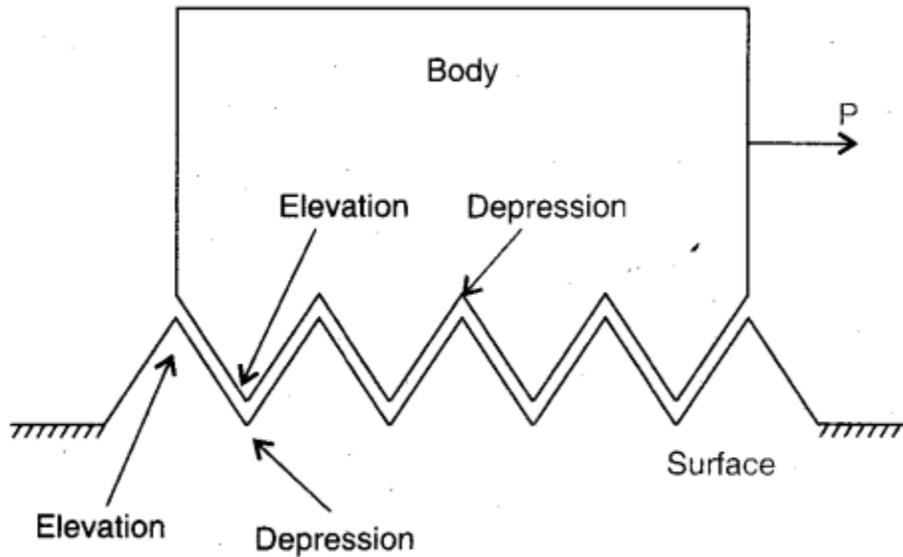

Fig. 7.01. Interlocking of elevations and depressions.
1. Roughness of surfaces is the cause of friction. The roughness or irregularities of surfaces provide the interlocking between the two surfaces when the surfaces are in relative motion. Interlocking of the elevations and the depressions of the lower surface and bottom surface of the bodies are shown in (Fig. 7.01). When the body is pulled, elevations collide and friction provide.